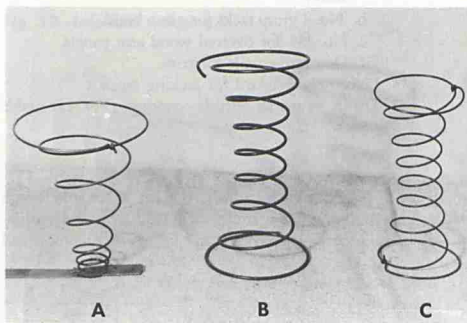
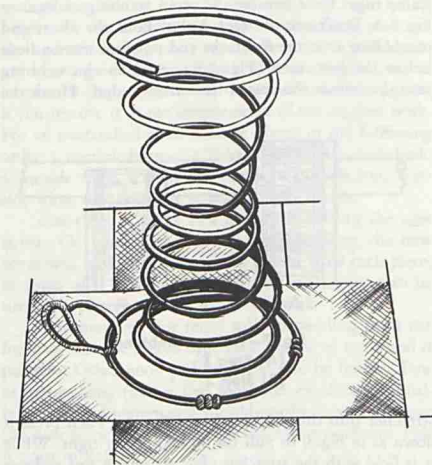

Fig. 4—Springs—
Fig. 13—Sewing spring to webbing.
- a. Cone springs on band or bar. (Fig. 4). Sold by length of bar. Don't use on webbing.
- b. Hourglass shape (Fig. 4) heavy for seat, and light for back.
Mark the position of each spring on the webbing. Remove all but one of the corner springs which you will sew first. Be sure this spring is right side up. On top, the spring wire is either bent down or twisted around the first coil (Fig. 4). This is to keep the sharp end of the spring from working through the padding. Place the loose end of the spring on the side toward the center of the seat. Thread about 36 inches of mattress or upholsterers' sewing twine into a straight upholsterers' needle or sack needle. Fasten the twine with a heavy knot on the bottom of the webbing. Take three or four closely spaced stitches over the bottom spring coil and very close to it, in four different places. (Fig. 13) Carry the twine under the webbing to the next spring. Space stitches so you can move from one spring to another without cutting the twine. When new twine is needed, tie it on the end of the first piece. When all springs are sewed, tie the twine to fasten.